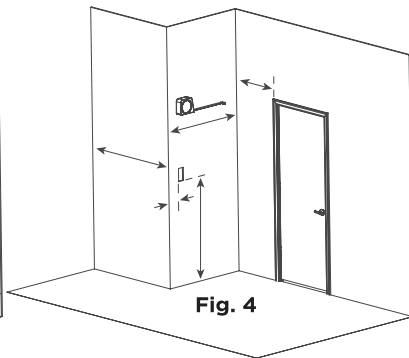

Fig. 4
- 4.4 Measure required dimensions for the panel and any cut-outs required. **(Fig. 4)**